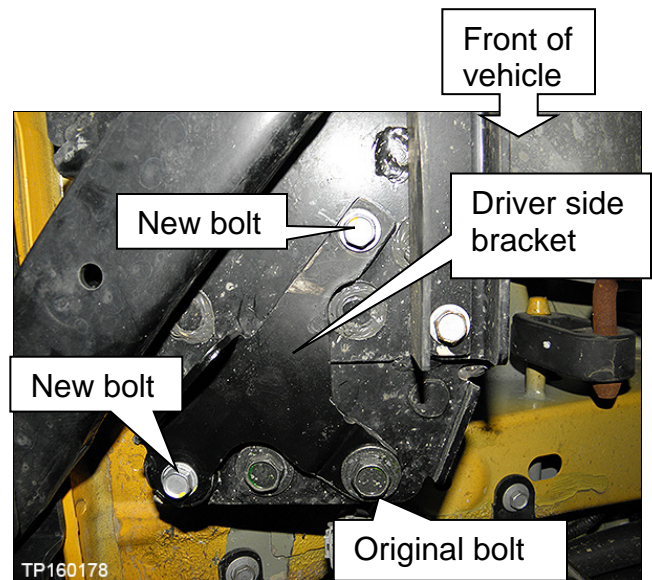

Figure 7
- Two new bolts provided (see Figure 7).
- Reuse one original bolt (see Figure 7).